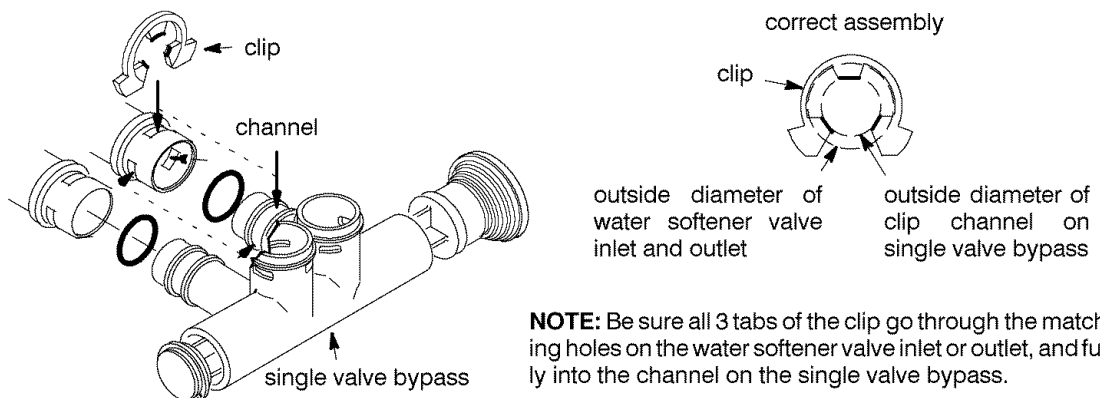

Figure 8
4. Push the single valve bypass into the softener valve as far as it will go. Snap the two large holding clips into place, from the top down as shown in Figure 8.